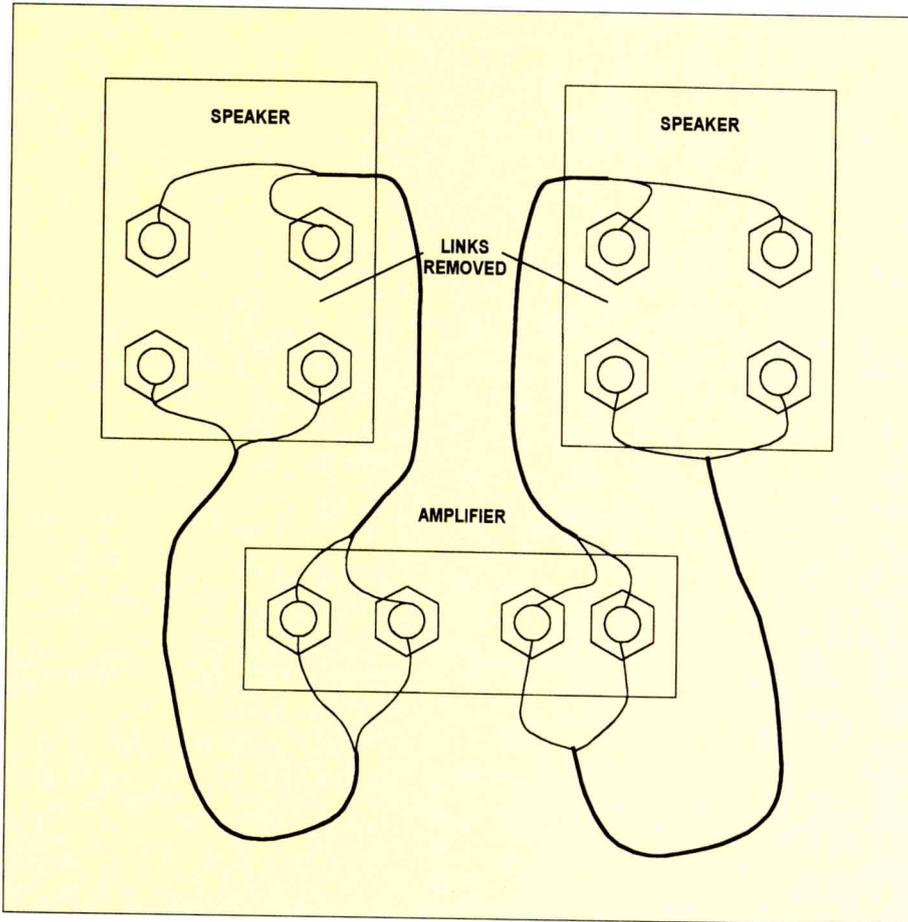

Figure 6. If the link between corresponding terminals of a bi-wire type speaker is removed, the speaker can be bi-wired.
1. Update speaker wire and inter-connect cables. Remember, thicker is not always better. Quality not quantity. Also, bi-wire speakers whenever possible. (Editor's note: Recently some manufacturers have begun constructing speakers with a second pair of connections terminals, which allows the speaker to be split into two independent sections. Generally, the split is such that one set of terminals connects to the mid and high frequency speakers, and the other set connects to the low-frequency speaker [woofer]. As the speakers come from the factory, there is a connecting link between the terminals so they can be wired normally [Figure 5], or the link can be removed so the speaker can be bi-wired [Figure 6]).